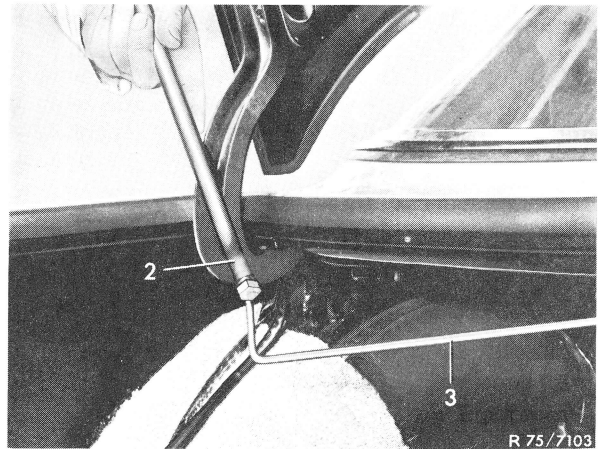

Figure 2
- 6 Slowly turn mounting lever forward to slacken spring (Fig. 2).